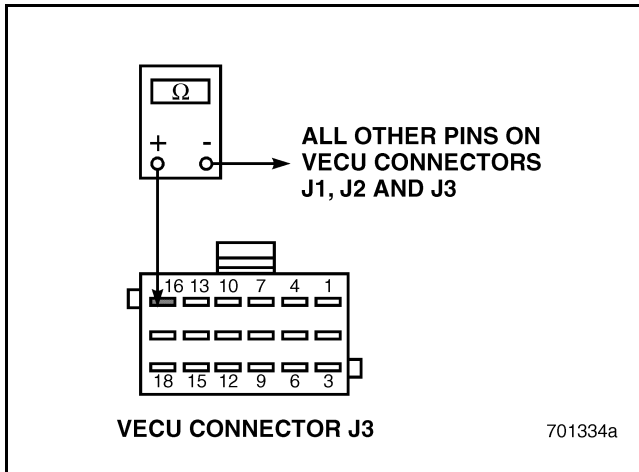

Figure 719
3. Check for continuity between VECU connector J3 pin 16 and all other pins on VECU connectors J1, J2 and J3 (see Figure 719).